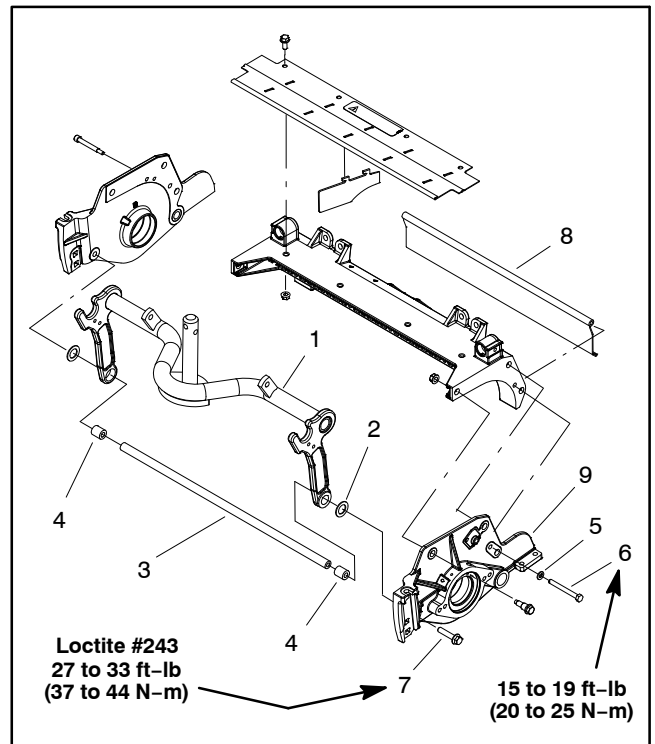

Figure 34
7. Remove cap screw and flat washer that secure rear grass shield to LH side plate (Fig. 34).
8. Remove flange head screw that secures support tube, frame spacer and carrier frame to LH side plate (Fig. 34).
**NOTE:** Side plates on 5" cutting reel attach to cutting unit frame with two (2) shoulder bolts and flange nuts. Side plates on 7" cutting reel use three (3) shoulder bolts and flange nuts.
9. Remove shoulder bolts (item 7) and flange nuts that secure the LH side plate to the cutting unit frame. Remove the LH side plate from the reel shaft, rollers, bedbar assembly and cutting unit frame.
4. On LH side plate, loosen set screw (item 20) and back-off (loosen) bearing adjuster nut one complete turn.
6. Install shoulder bolts (item 7) and flange nuts that secure the LH side plate to the cutting unit frame. Torque the shoulder bolts from **27 to 33 ft-lbs (37 to 44 N-m)**.
7. Apply Loctite #243 (or equivalent) to threads of flange head screw that secures support tube, frame spacer and carrier frame to LH side plate (Fig. 34). Install screw and torque from **27 to 33 ft-lbs (37 to 44 N-m)**. After tightening screw, check the clearance between the carrier frame and side plate. If clearance is more than 0.090" (2.3 mm), remove flange head screw and position shim(s) (part number 67-9410) between carrier frame and side plate so that clearance is less than 0.090" (2.3 mm). Make sure that the carrier frame pivots freely after assembly.
8. Install cap screw and flat washer that secure rear grass shield to LH side plate (Fig. 34). Torque screw from **15 to 19 ft-lbs (20 to 25 N-m)**.
11. Make sure that set screw (item 20) is loose in LH side plate to allow bearing adjuster nut movement. With the cutting unit and reel in a horizontal position, tighten the bearing adjuster nut to **25 in-lb (2.8 N-m)** to remove cutting reel end play.
13. Apply Loctite #243 (or equivalent) to threads of set screw (item 20) and secure bearing adjuster nut in place with set screw. Torque set screw from **12 to 15 in-lb (1.4 to 1.7 N-m)**.
16. If counterweight or accessory was removed from cutting unit, install new O-ring (item 11). Secure counterweight or accessory to cutting unit. Tighten counterweight screws from **27 to 33 ft-lbs (37 to 44 N-m)**.